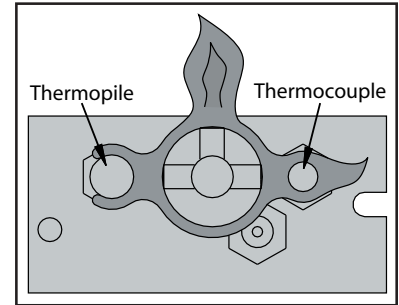

Figure 3. Pilot Flame
1. Turn off the gas to the fireplace. **If not recently done, remove the glass and let the unit air out for at least five (5) minutes to clear out any gas.** Turn on gas to the heater. Leak test all joints with soapy water. **NEVER USE OPEN FLAME FOR LEAK TESTING.**
2. Start the pilot by pressing the gas control knob and turning it to PILOT. While holding the gas control knob in, press the piezo ignitor several times until the pilot light starts. Hold the gas control knob in for 30 seconds. Check that the pilot has fully engulfed the thermocouple assembly (see Figure 3).